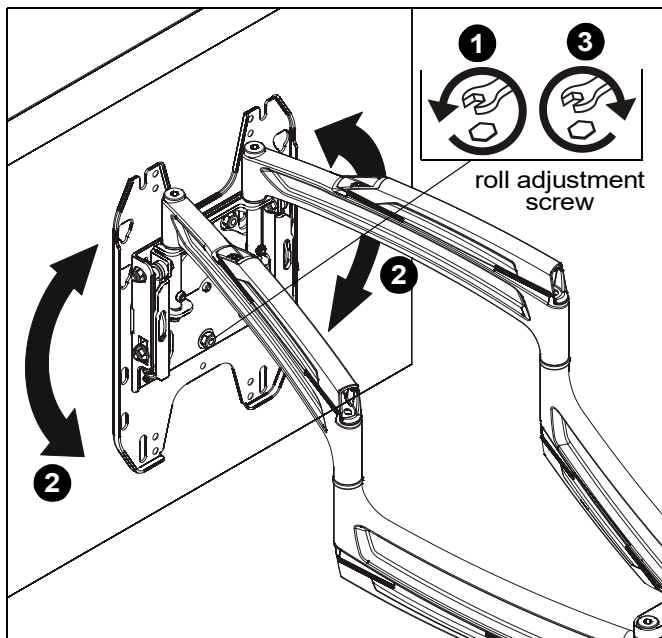

Figure 31
- Loosen roll tension adjustment screw on back of faceplate to decrease roll adjustment friction. (See Figure 31)
- Adjust roll position of display as desired. (See Figure 31)
- Tighten roll tension adjustment screw to desired friction level. (See Figure 31)